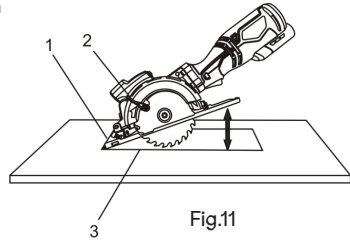

Fig.11
3. Set the saw on the workpiece so the front edge of the sole plate (1) is flat on the workpiece (Fig. 11).
4. Open the blade guard by rotating the blade guard lever (2) forward.
5. Align the saw blade with the cutting line (3) using the 0° cutting mark on the sole plate and the laser line.